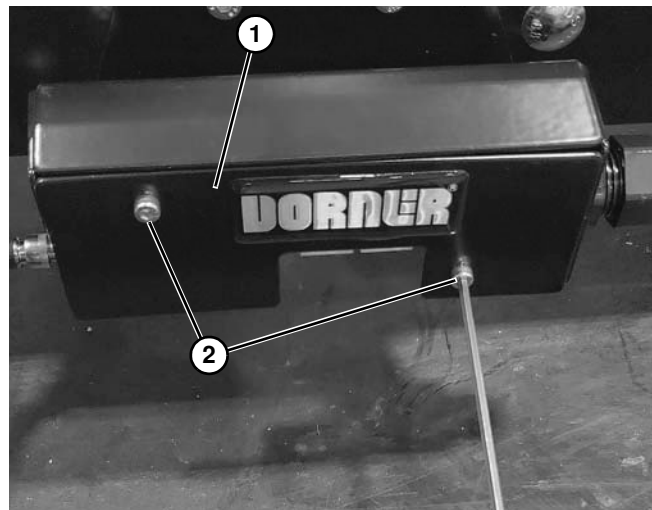

Figure 22
5. Install cover (**Figure 22, item 1**) with two screws (**Figure 22, item 2**).